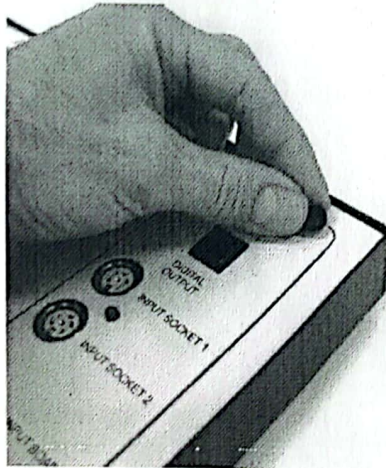

Figure 6 Unscrew the Fixings (VDAS-B Hardware shown, VDAS-F is similar)
2. Unscrew the fixings for the board that you need to change (see Figure 6).